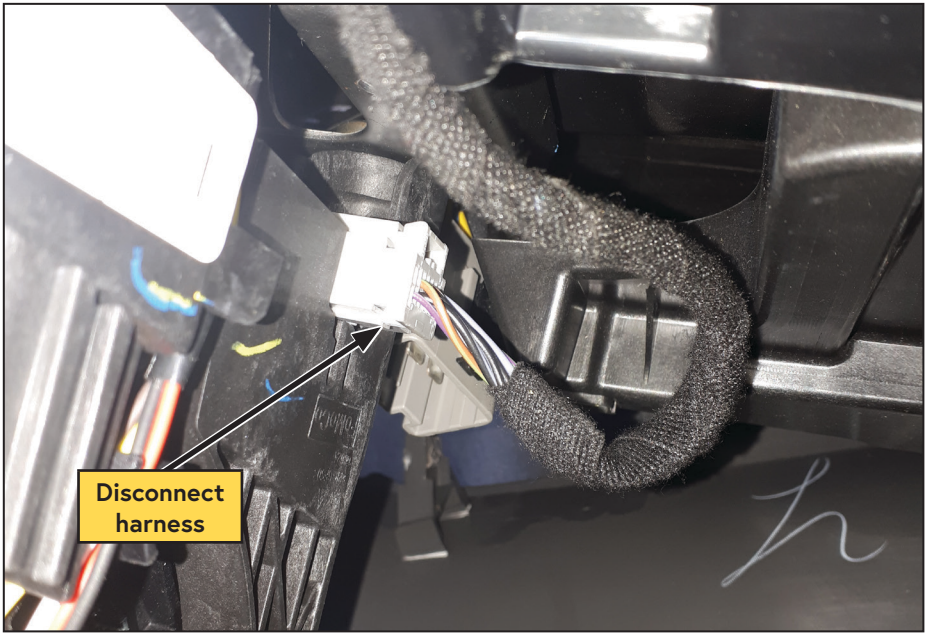

Figure 51 — Remove shifter console
- Disconnect the 12 pin harness located on the passenger side of the gear selector (Figure 51).